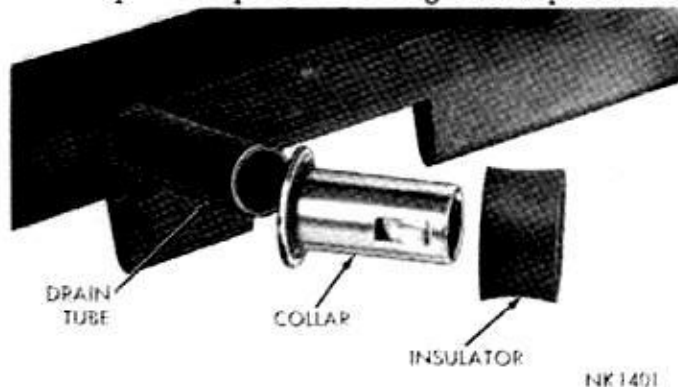

Fig. 19—Evaporator Drain Tube Collar and Insulator
- (1) Install the evaporator and drain pan, being careful not to damage the case insulation; tighten the six attaching screws.
- (2) Position the heater core housing on the evaporator case by hooking the housing lip on the evaporator case and pull it down into position. Secure the housing with the spring clips and screws on the two sides and bottom.
- (3) Install the floor actuator and bracket.
- (4) Install the collars and insulators on the two drain tubes (Fig. 19).
- (5) Enter the complete heater and evaporator under the instrument panel and position the unit against the firewall, indexing the tubes and mounting studs with corresponding holes in the firewall, then carefully move unit forward until unit is positioned against the firewall. Install the stud nuts but do not tighten until all nuts have been installed and studs centered in their respective holes.
- (6) Install blower motor wires and air tube.
- (7) Use new "O" rings with clean refrigerant oil on all connections, then install the suction line and the expansion valve to the evaporator fittings. **Use two wrenches to prevent rotation and twisting of the lines.**